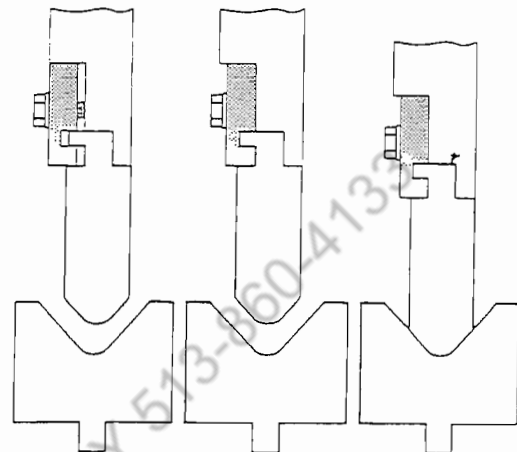

FIGURE 12
CAUTION: If upper tool does not have a safety tang, the upper tool will drop out of the clamp bars in the opened, upper hydraulic tool clamp position. Always lower ram so that the upper tool rests in the vee of the lower die when opening upper tool clamps (See figures 12 and 13).
1. When installing upper tools with a safety tang (Figure 12), loosen ram clamps enough so that the tang of the upper tool clears the clamps and ram surface.